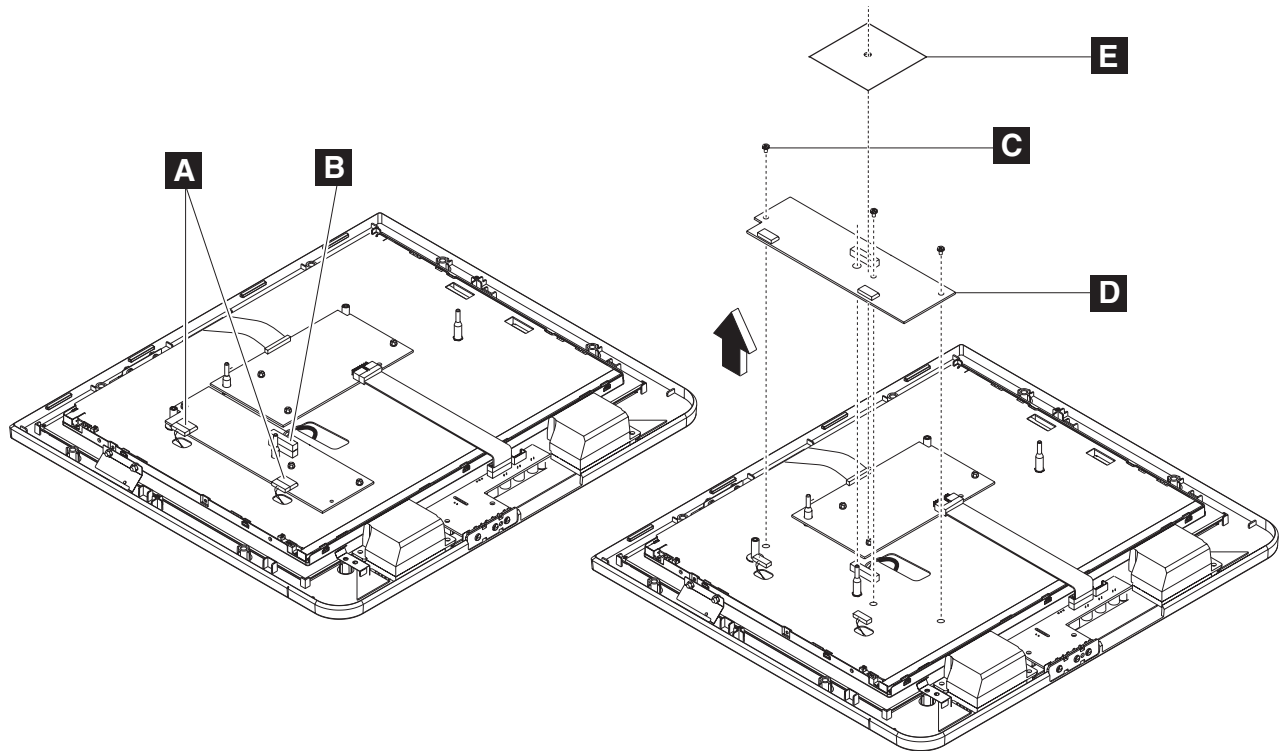

Figure 27. Removing the backlight inverter card
4. Remove the insulating plastic sheet (**E** in Figure 27).
5. Disconnect the following from the card (see Figure 27):
- LCD backlight cables: 2 in the 12 inch and 15 inch units; 4 in the 17 inch unit (**A** in Figure 27 on page 43)